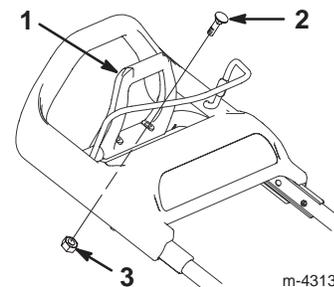

Figure 4
11. Position the traction assist handle over the holes in the upper handle bar (Fig. 4).
2. Carriage bolt (2)
3. Locknut (2)
12. Use the carriage bolts and locknuts supplied in the kit to fasten the traction assist handle to the upper handle bar (Fig. 4). Tighten the locknuts until the traction assist handle no longer flexes, but **do not overtighten**.